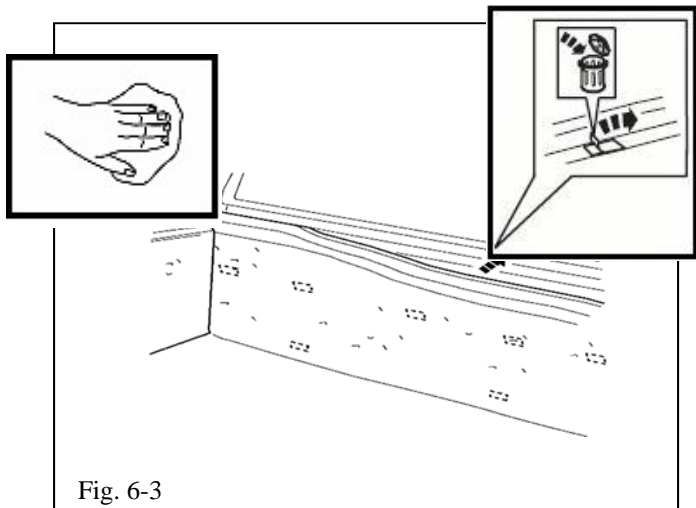

Fig. 6-3
- (i) Fit top edge of bed liner bulkhead to top edge of body panel to determine best location. (Fig 6-3)